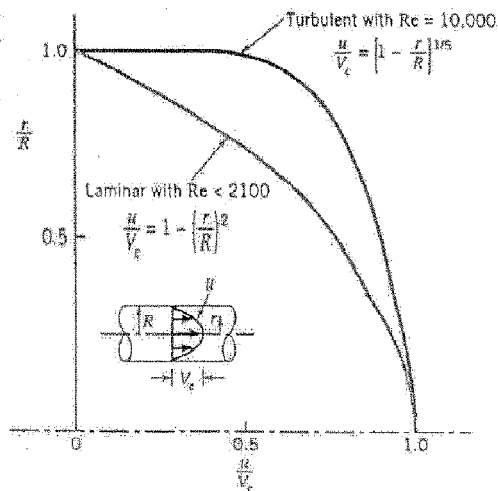

FIGURE P8.30
8.30 As shown in Video V8.10 and Fig. P8.30 the velocity profile for laminar flow in a pipe is quite different from that for turbulent flow. With laminar flow the velocity profile is parabolic; with turbulent flow at $Re = 10,000$ the velocity profile can be approximated by the power-law profile shown in the figure. (a) For laminar flow, determine at what radial location you would place a Pitot tube if it is to measure the average velocity in the pipe. (b) Repeat part (a) for turbulent flow with $Re = 10,000$.